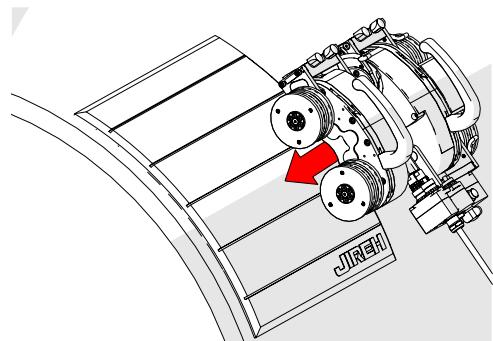

Fig. 46 - Lower crawler to mat
- Place and hold the crawler on the installation/removal mat (Fig. 46).